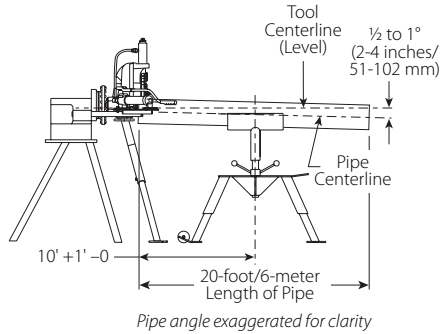

FIGURE 1 - SUPPORT OF PIPE
4. If the tool is properly set up in a level position, but the back end of the pipe is higher than the end being grooved, the pipe may not track. As a result, excessive flare may occur on the pipe end. Refer to the “Tool Setup” section and figures 1 and 2 on this page for tool setup and pipe positioning requirements.
- Figure 1 shows a typical pipe stand.
5. Place the pipe stand at a distance slightly beyond half the pipe length from the tool. Refer to Figure 1 on this page.